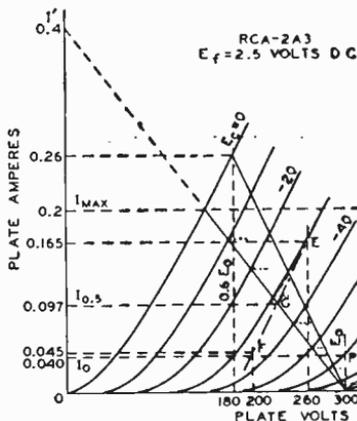
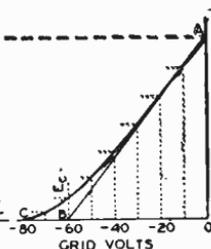

Fig. 24
Fig. 25
In class AB₁ push-pull amplifier service using triodes, the operating conditions may be determined graphically by means of the plate family if E_o , the desired operating plate voltage, is given. In this service, the dynamic load line does not pass through the operating point P as in the case of the single-tube amplifier, but through the point D in Fig. 24. Its position is not affected by the operating grid bias provided the plate-to-plate load resistance remains constant. Under these conditions, grid bias has only a small effect on the power output. Grid bias cannot be neglected, however, since it is used to find the zero-signal plate current and, from it, the zero-signal plate dissipation. Since the grid bias is higher in class AB₁ than in class A service for the same plate voltage, this "overbiased" condition permits the use of a higher signal voltage without grid current being drawn and, therefore, higher power output is obtained than in class A service.
In general, for any load line through point D, Fig. 24, the plate-to-plate load resistance in ohms of a push-pull amplifier is $R_{pp} = 4E_o/I'$, where I' is the plate current value in amperes at which the load line as projected intersects the plate current axis and E_o is in volts. This is another form of the formula, given under push-pull class A amplifiers, $R_{pp} = 4(E_o - 0.6E_o)/I_{max}$, but is more general. Power output = $(I_{max}/\sqrt{2})^2 \times R_{pp}/4$, where I_{max} is the peak plate current at zero grid volts for the load chosen. This formula simplified is $(I_{max})^2 \times R_{pp}/8$. The maximum-signal average plate current is $2I_{max}/\pi$ or $0.636 I_{max}$; the maximum-signal average power input is $0.636 I_{max} E_o$.
Example: Fig. 24 illustrates the application of the method to a pair of 2A3's operated at $E_o = 300$ volts. The tubes have a plate-dissipation rating each of 15 watts. The method is to erect a vertical line at $0.6E_o$, or at 180 volts, which intersects the $E_c = 0$ curve at the point $I_{\max} = 0.26$ ampere. Using the simplified formulas, we obtain
The operating bias and the zero-signal plate current may now be found by use of a curve which is derived from the plate family and the load line. Fig. 25 is a curve of instantaneous values of plate current and dc grid-bias voltages taken from Fig. 24. Values of grid bias are read from each of the grid-bias curves of Fig. 24 along the load line and are transferred to Fig. 25 to produce the curved line from A to C. A tangent to this curve, starting at A, is drawn to intersect the grid-voltage abscissa. The point of intersection, B, is the operating grid bias for fixed-bias operation. In the example, the bias is -60 volts. Refer back to the plate family at the operating conditions of plate volts = 300 and grid bias = -60 volts; the zero-signal plate current per tube is seen to be 0.04 ampere. This procedure locates the operating point for each tube at P. The plate current must be doubled, of course, to obtain the zero-signal plate current for both tubes. Under maximum-signal conditions, the signal voltage swings from zero-signal bias voltage to zero bias for each tube on alternate half cycles. Hence, in the example, the peak af signal voltage per tube is 60 volts, or the grid-to-grid value is 120 volts.
As in the case of the push-pull class A amplifier, the second-harmonic distortion in a class AB₁ amplifier using triodes is very small and is largely cancelled by virtue of the push-pull connection. Third-harmonic distortion, however, which may be larger than permissible, can be found by means of composite characteristic curves. A complete family of curves can be plotted, but for the present purpose only the one corresponding to a grid bias of one-half the peak grid-voltage swing is needed. In the example, the peak grid voltage per tube is 60 volts, and the half value is 30 volts. The composite curve, since it is nearly a straight line, can be constructed with only two points (see Fig. 24). These two points are obtained from deviations above and below the operating grid and plate voltages. In order to find the curve for a bias of -30 volts, we have assumed a deviation of 30 volts from the operating grid voltage of -60 volts. Next assume a deviation from the operating plate voltage of, say, 40 volts. Then at $300 - 40 = 260$ volts, erect a vertical line to intersect the $(-60) - (-30) = -30$ -volt bias curve and read the plate current at this intersection which is 0.167 ampere; likewise, at the intersection of a vertical line at $300 + 40 = 340$ volts and the $(-60) + (-30) = -90$ -volt bias curve, read the plate current. In this example, the plate current is estimated to be 0.002 ampere. The difference of 0.165 ampere between these two currents determines the point E on the $300 - 40 = 260$ -volt vertical. Similarly, another point F on the same composite curve is found by assuming the same grid-bias deviation but a larger plate-voltage deviation, say, 100 volts. We now have points at 260 volts and 0.165 ampere (E), and at 200 volts and 0.045 ampere (F). A straight line through these points is the composite curve for a bias of -30 volts, shown as a long-short dash line in Fig. 24. At the intersection of the composite curve and the load line, G, the instantaneous composite plate current at the point of one-half the peak signal swing is determined. This current value, designated $I_{0.5}$ and the peak plate current, I_{max} , are used in the following formula to find peak value of the third-harmonic component of the plate current.